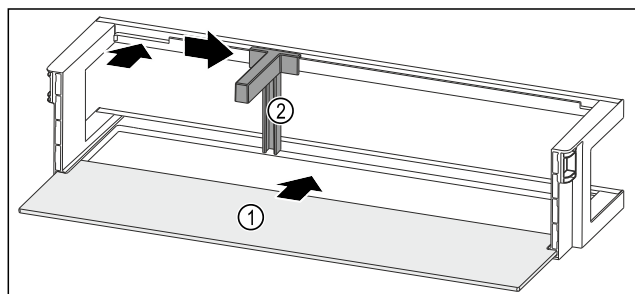

Fig. 123 Door rack with shelf
- ▶ Push the shelf Fig. 123 (1) into the side recesses.
- ▶ Insert the bottle holder Fig. 123 (2) in the recess.
- ▶ Push the bottle holder Fig. 123 (2) to the desired position to the side.